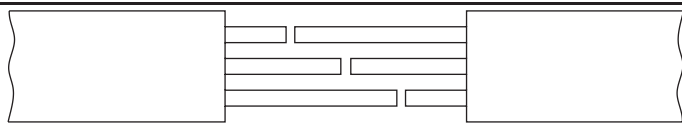

Fig. 6 Slant cutting of cable for cable joining
1. As shown in fig. 6 cut the cable slantingly.